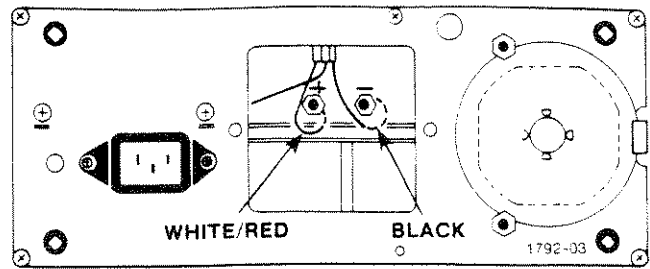

Fig. 2-2. Battery connector polarity.
*When substituting a dc power supply or external battery for the battery pack, be sure the polarity is correct. See Fig. 2-2.*